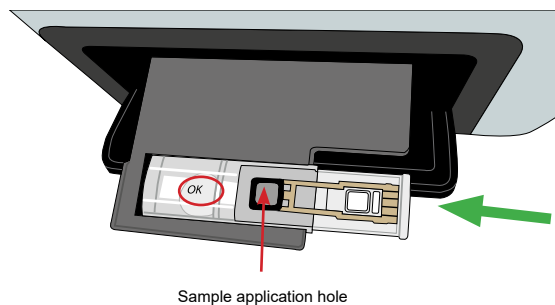

Figure 17. Labmaster LUCIA™ cassette loading
12. Slide the Labmaster LUCIA™ test cassette onto the tray. See Figure 17.